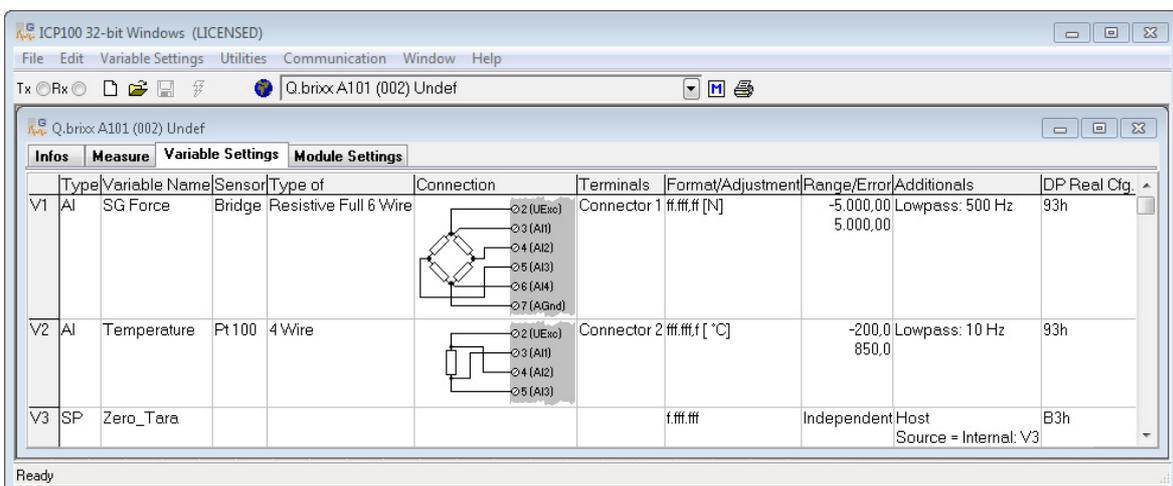

Abb. 5-4 Defining the variable for zero balancing and/or taring.
1. Click in the column **Type** of the first free row (V3 = Variable 3 in Fig. 5-4) or mark the row (click on V3) and use **Variable definition > Type**.
3. Click in the column **Variable name** and allocate a name specifying the purpose of the signal, e.g. Zero\_tare (Fig. 5-4).
- Click in the column **Format/balance** of the channel for which zero balancing and/or taring is to be executed, e.g. for the strain-gauge force sensor in Fig. 5-4.